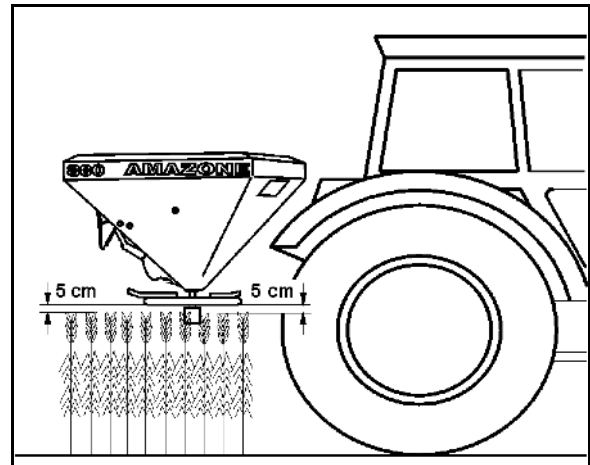

Fig. 63
2. Undo the thumb nut (Fig. 63/1).
3. On the scale (Fig. 63/2), find the scale value for the slider position you have taken from the setting chart or determined using the calibration kit.
4. Set the read-off edge (Fig. 63/3) of the two setting levers (Fig. 63/4) to this scale value.
5. Retighten the thumb nuts (Fig. 63/1).